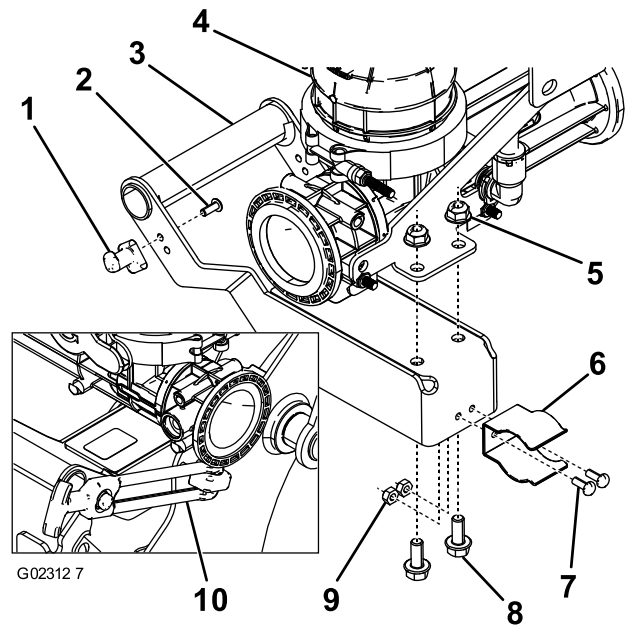

Figure 10
1. Attach the latch post to the eductor handle using a hex-head bolt (Figure 10).
2. Attach the latch handle to the main support frame using 2 hex-head bolts (Figure 10).
3. Attach the handle to the eductor using 2 flange-head bolts and flange-head nuts (Figure 10).